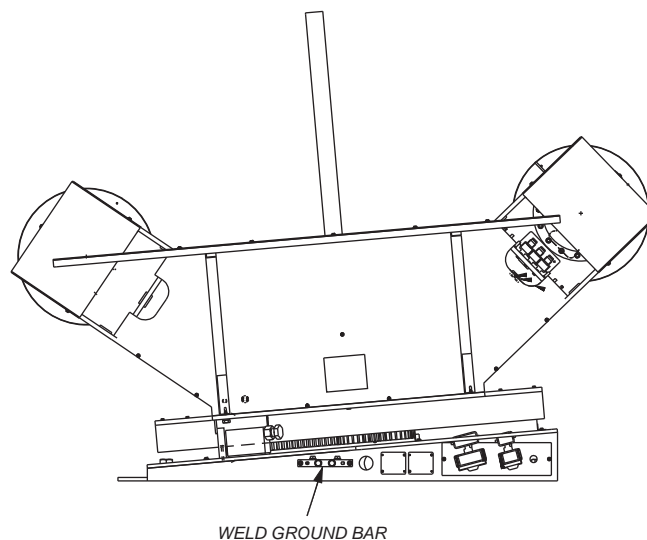

Figure 6 Installing Weld Ground Cables
1. Use bolt holes shown in Figure 6 as a guide for installation of the anchors. Transfer the hole locations to the concrete.
Attach weld ground cables (one for each power supply) to the weld ground bar located next to the Power and Encoder connectors (see Figure 6).